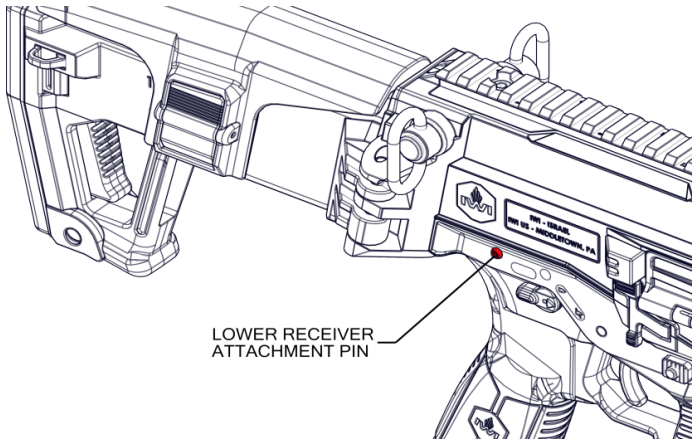

Figure 10-5 – Lower Receiver Attachment Pin
1. Close the buttstock and press in the Lower Receiver Attachment Pin (Figure 10-5).